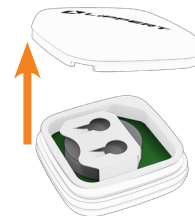

Fig.19
3. The sensor will pop open like a clamshell (Fig.19).